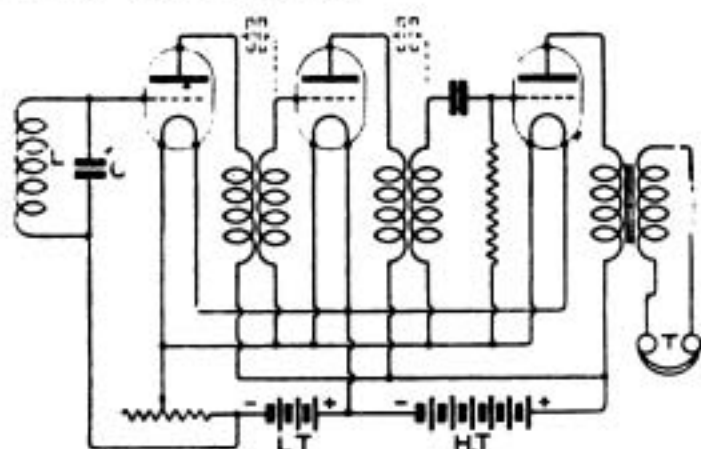

Fig. 1.
**I**N our last article, in describing the action of the resistance transformer amplifier, it was stated that the high frequency voltage drop across the anode winding was communicated to the grid of the next valve through the medium of the capacity between the two windings of the transformer (not, be it noted, the self capacity of each winding, which should be kept as small as possible). It is sometimes found that on the longer wavelengths this capacity is not sufficient for good results, in which case a fixed capacity condenser is connected between each anode and the succeeding grid, as shown dotted in Fig. 1. The best value of capacity should be determined experimentally.
Fig. 1 shows diagrammatically a three-valve amplifier with two high frequency transformers. A reaction coil may be connected either in the anode winding of No. 2 valve, the grid winding of the third valve or the anode winding of No. 3 valve. This winding should couple into the inductance of the oscillating circuit LC. It is well known that for a set to "react" or "oscillate," it is necessary that the main inductance and the reaction coil should be so connected that the direction of windings bear a certain relation to one another. With a reaction H.F. amplifier it is found that under certain